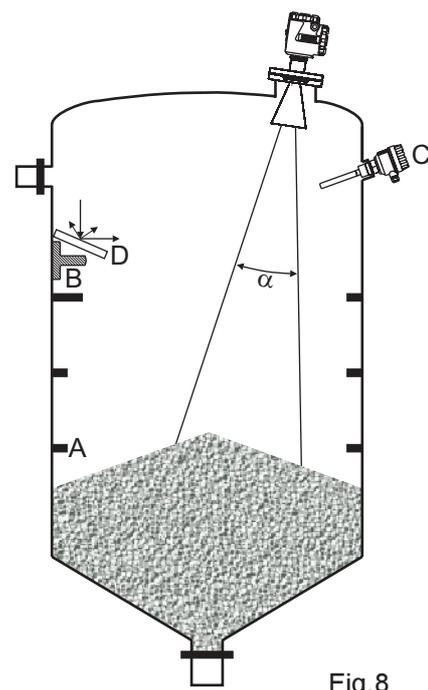

Fig.8
- Internal devices having symmetrical structure such as reinforcing rings (fig.8/A) can interfere with the measurement.
- Avoid any installations, as limit switches or temperature sensors, inside the signal beam.(fig. 8/C).
- In order to reduce falso echoes we suggest mounting metallic screens (fig.8/D).